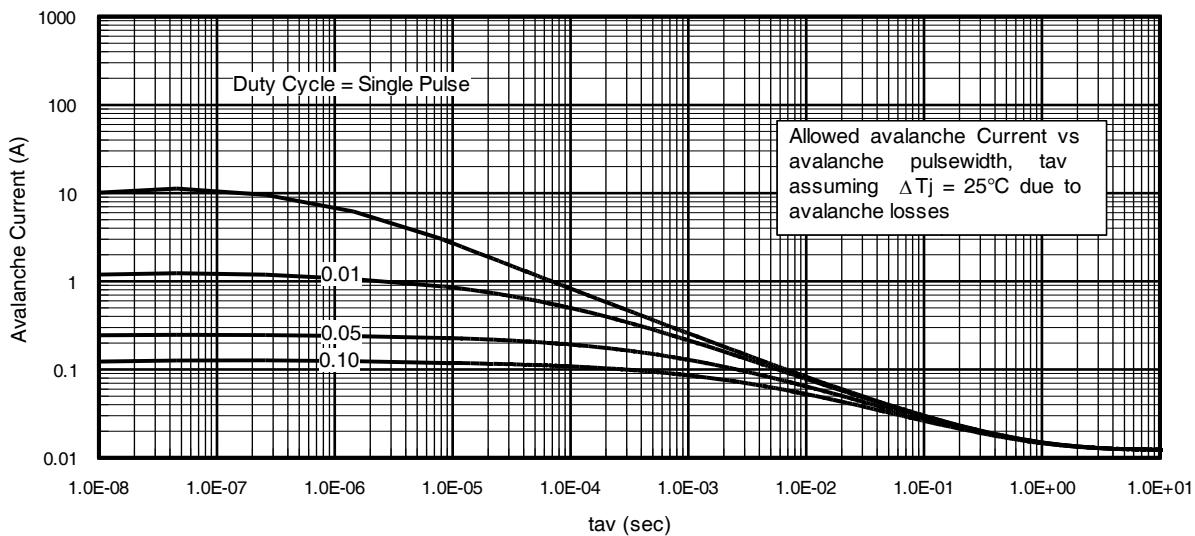

Fig 19. Typical Avalanche Current vs. Pulse width
**Notes on Repetitive Avalanche Curves , Figures 19, 20: